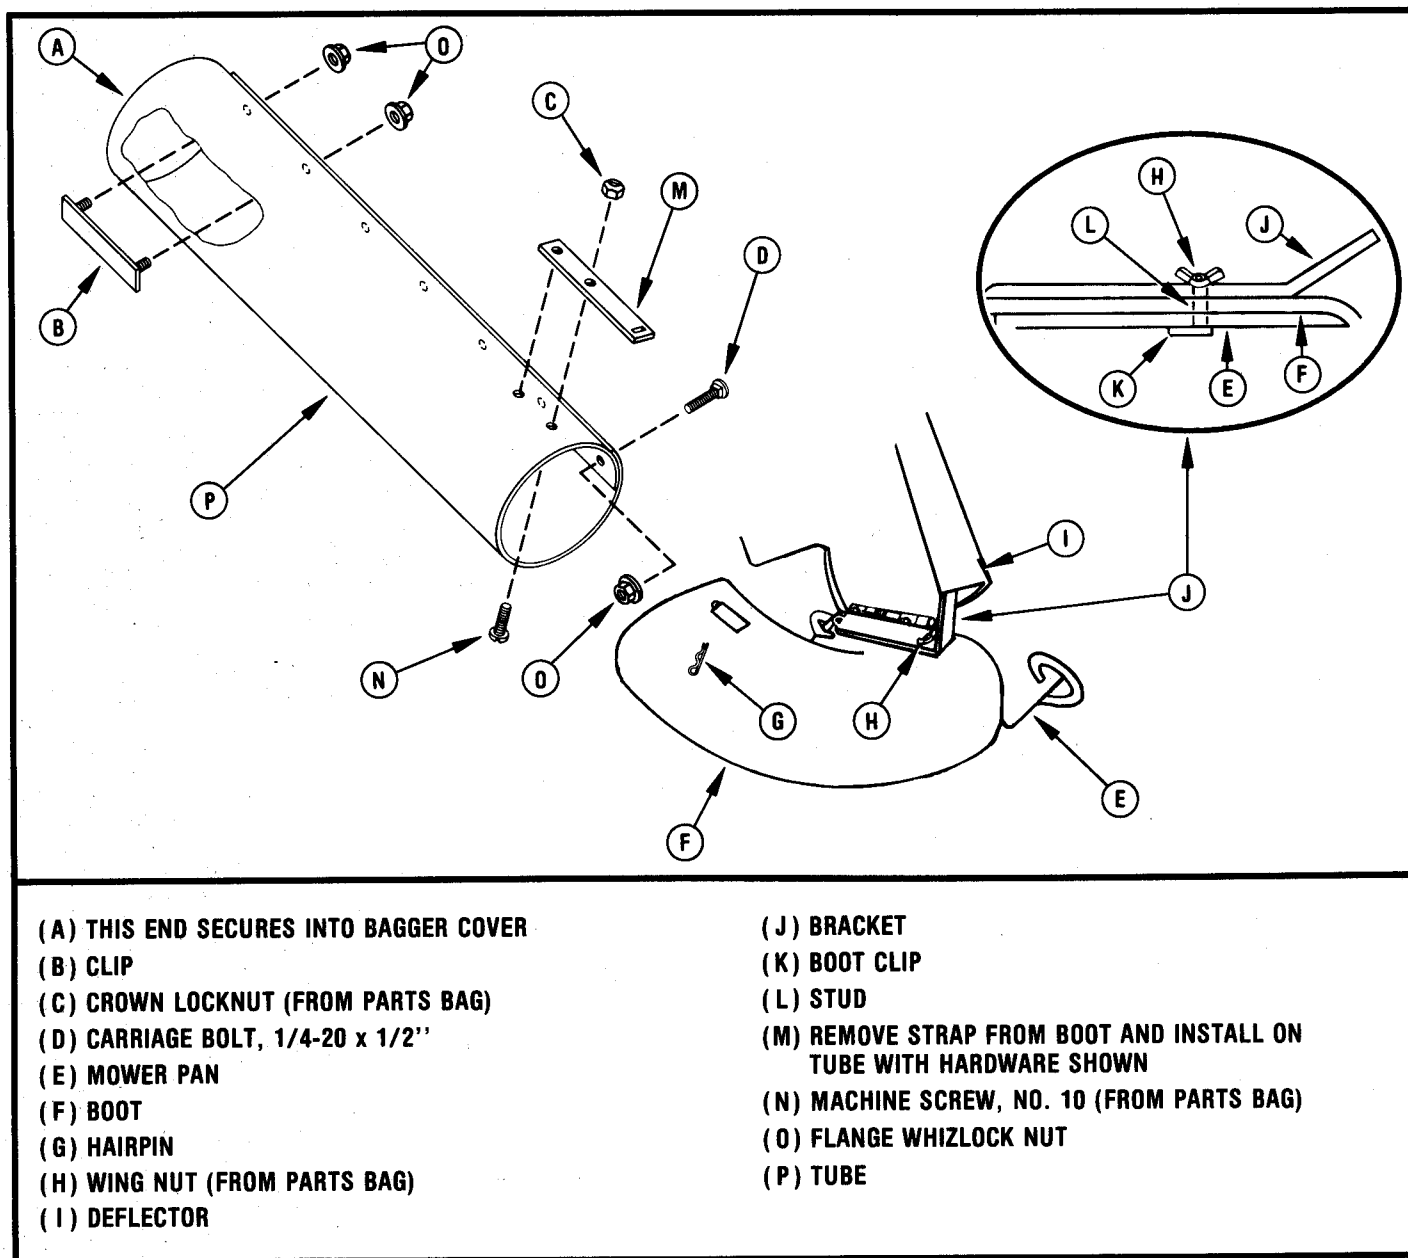

FIGURE 11-12
1. Install bottom edge of boot between mower runner, if there is one, and bottom edge of mower pan. See Figure 11-12.
2. Lift deflector, position bracket into hole of boot and into pan at rear of discharge opening area. Install boot clip from inside mower pan so stud protrudes through pan, boot and bracket at forward hole of boot and bracket. See Figure 11-12.
3. Secure boot and bracket with wing nut; tighten to stud of boot clip. Bracket also holds mower pan deflector up and away from boot when installed. See Figure 11-12.
4. Assemble and install tube as shown in Figure 11-12.